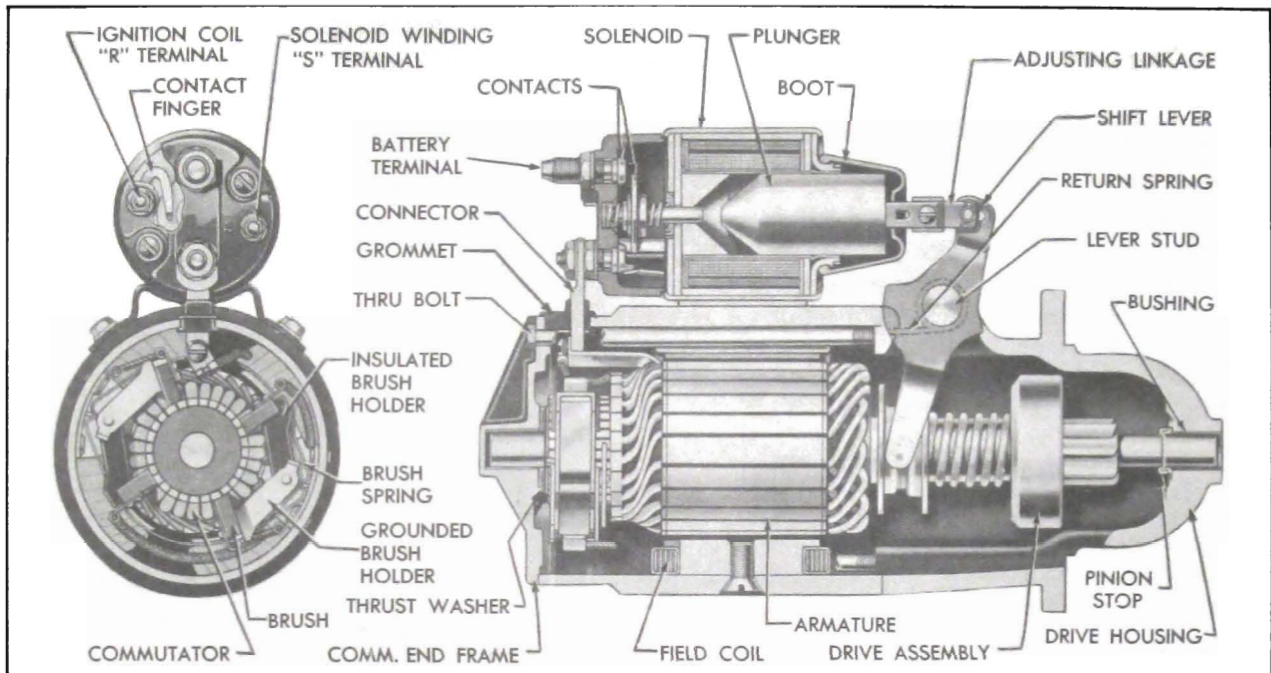

Figure 10-31—Cranking Motor—Sectional View
The cranking motor assembly consists of a motor, drive assembly, shift lever, and solenoid switch. See figure 10-31. It is mounted on the flywheel upper housing on the left side of engine.
The drive assembly pinion is moved into engagement with flywheel ring gear by action of the solenoid upon the shift lever, which engages the shift collar of drive assembly. The shift collar moves the drive assembly by pushing on the clutch spring, which serves as a cushion in case the pinion and gear teeth butt instead of meshing. The helical splines assist in obtaining proper pinion engagement. The drive pinion is pulled out of engagement, after engine starts, by action of the shift lever return spring. The shift lever is connected to the solenoid switch plunger by a link and adjusting screw. See figure 10-31.
The solenoid section of the switch has a plunger and two windings, the "pull-in" winding and the "hold-in" winding. Together, they provide sufficient magnetic attraction to pull the solenoid plunger into the solenoid. The plunger actuates the shift lever and drive assembly and it also closes the solenoid switch contacts by pressing against a push rod upon which a contact disk is mounted between two coil springs. One spring serves as a cushion to insure firm contact of the disk with two stationary contacts. The other spring pushes the disk away from the stationary contacts to break the circuit when the solenoid is demagnetized after the engine starts. One stationary contact is connected to the battery positive cable and the other is connected to the motor windings through a connector or bus bar. See figure 10-31.
2. Connect a 12-volt battery, a variable resistance, and an ammeter of 100 amperes capacity in series with the base of the solenoid "S" terminal on switch. See figure 10-31 for location of the "S" terminal.